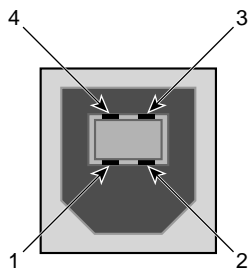

Figure B-11 USB Type B Connector Pin Number Locations
- Figure B-11 on page 150 for pin number locations
Figure B-11 shows the USB type B connector that is used for the USB L1 port of the Onyx 300 compute module, the L1 port on the NUMAlink module, and the port connector on the USB hub that connects to the L2 controller. Table B-7 lists the pin assignments.